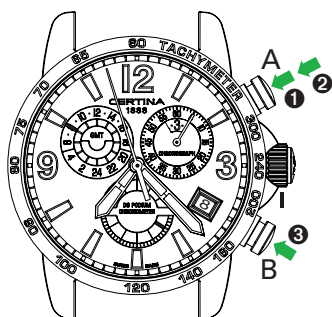

Fig. 1
- Time 1 readout (as per Fig. 1)**